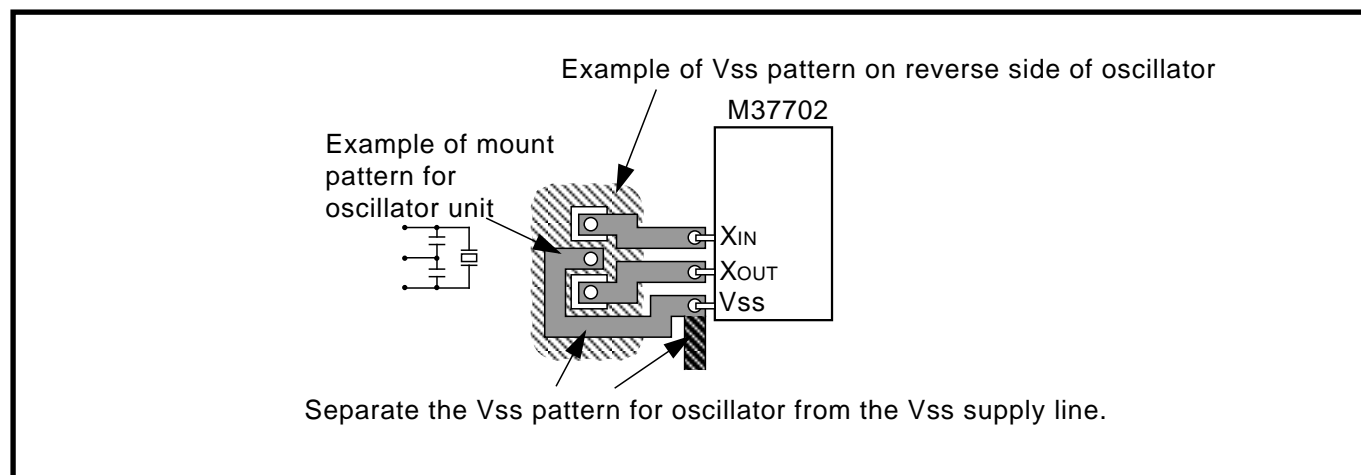

Fig. 19 Vss pattern on reverse side of oscillator
(2) Wiring of clock input/output pins
- Separate the Vss pattern for oscillation purpose from the other Vss patterns. (Refer to Figure 19.)